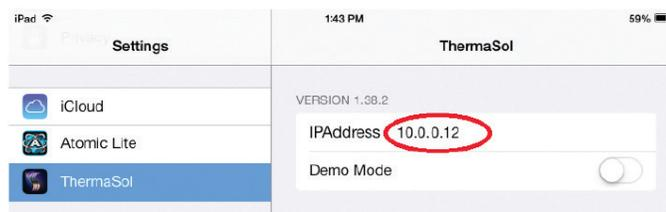

Figure 12: ThermaSol App IP address setting
3. Enter the IP address that was captured above in step 9 of “CONFIGURE THE NETWORK” section into the ThermaSol App IP address field as shown below in Figure 12